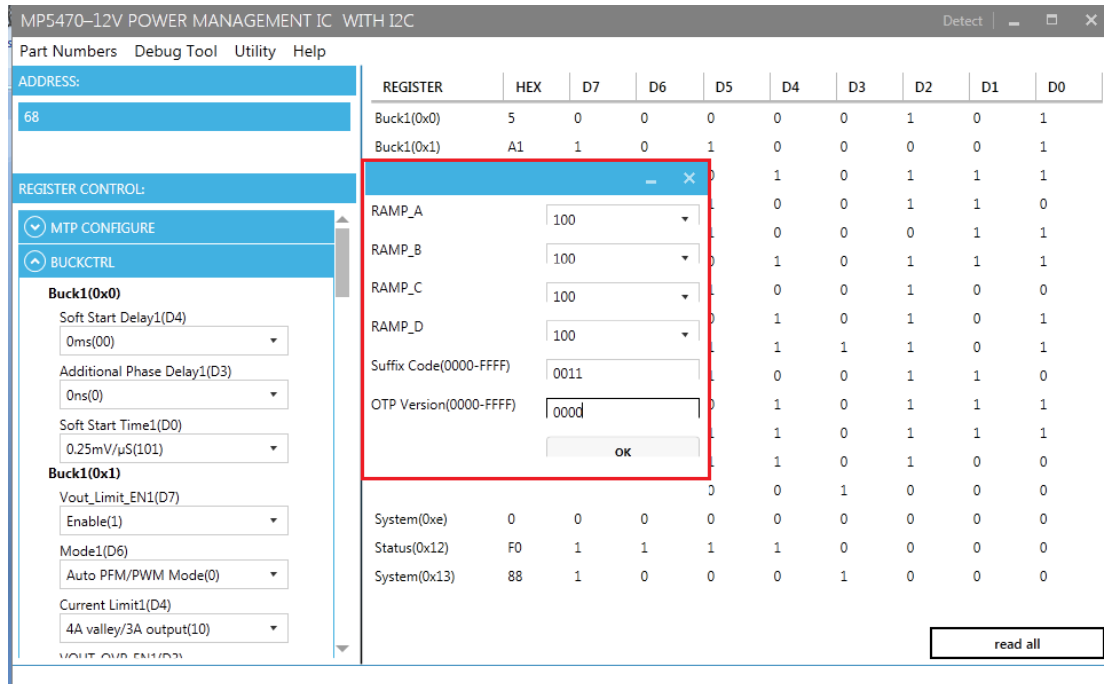

Figure 14: Export MTP Registers Configuration Files
6. The MTP registers configuration file can also be exported by clicking "Utility—MTP/OTP--Export". Afterward, the software interface will be as shown in Figure 14.